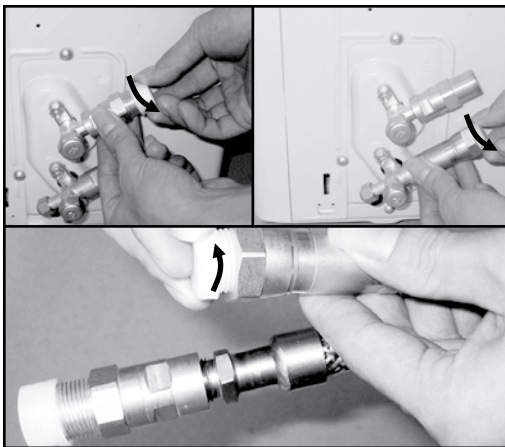

FIG. 6.2
2. Do not remove the plastic seals from the outdoor unit and the appropriate refrigerant pipes until immediately before you connect them. See Fig. 6.2.